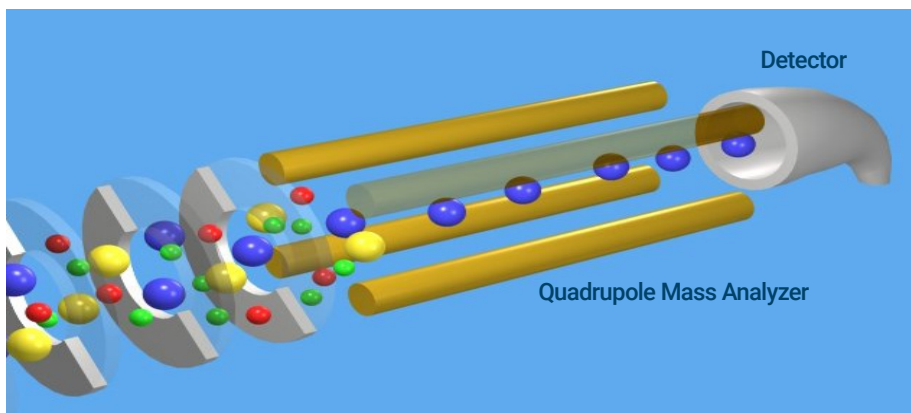

Figure 3. Single quadrupole: SIM
To obtain the best sensitivity or quantitative measurement, the single quadrupole is operated in SIM mode (**Figure 3**). The duty cycle is the measure of the instrument's time actually devoted to measuring signals. In SIM mode, the single quadrupole analyzes the signal of a specific m/z ion almost all of the time. This results in nearly 100 percent acquisition during the duty cycle.
- 3 In the analyzer, only ions of a particular m/z value, represented in **Figure 3** by blue balls, are allowed to pass through to the detector.